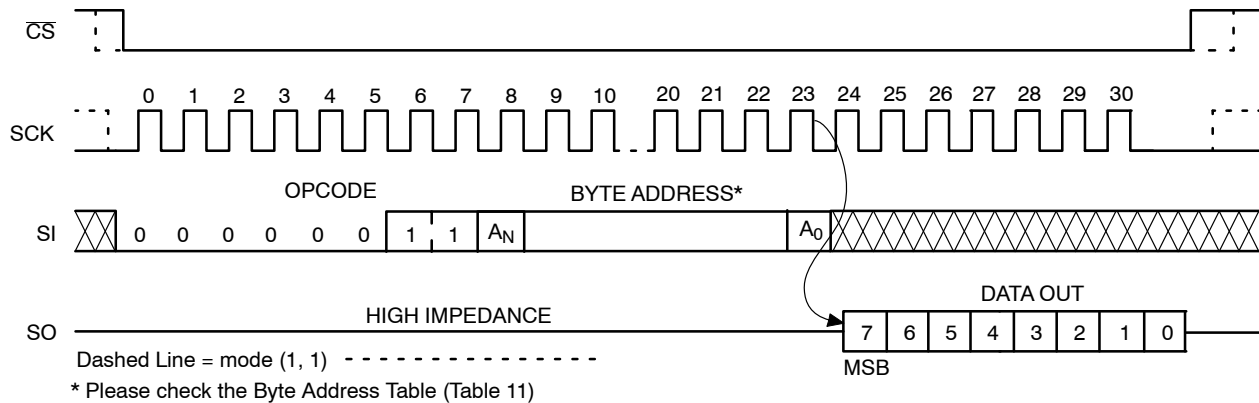

Figure 9. READ Timing
After receiving the last address bit, the NV25128 will respond by shifting out data on the SO pin (as shown in Figure 9). Sequentially stored data can be read out by simply continuing to run the clock. The internal address pointer is automatically incremented to the next higher address as data is shifted out. After reaching the highest memory address, the address counter “rolls over” to the lowest memory address, and the read cycle can be continued indefinitely. The read operation is terminated by taking $\overline{CS}$ high.
Reading the additional 64-byte Identification Page (IP) is achieved using the same Read command sequence as used for Read from main memory array (Figure 9). **The IPL bit from the Status Register must be set (IPL = 1) before attempting to read from the IP.** The [A5:A0] are the address significant bits that point to the data byte shifted out on the